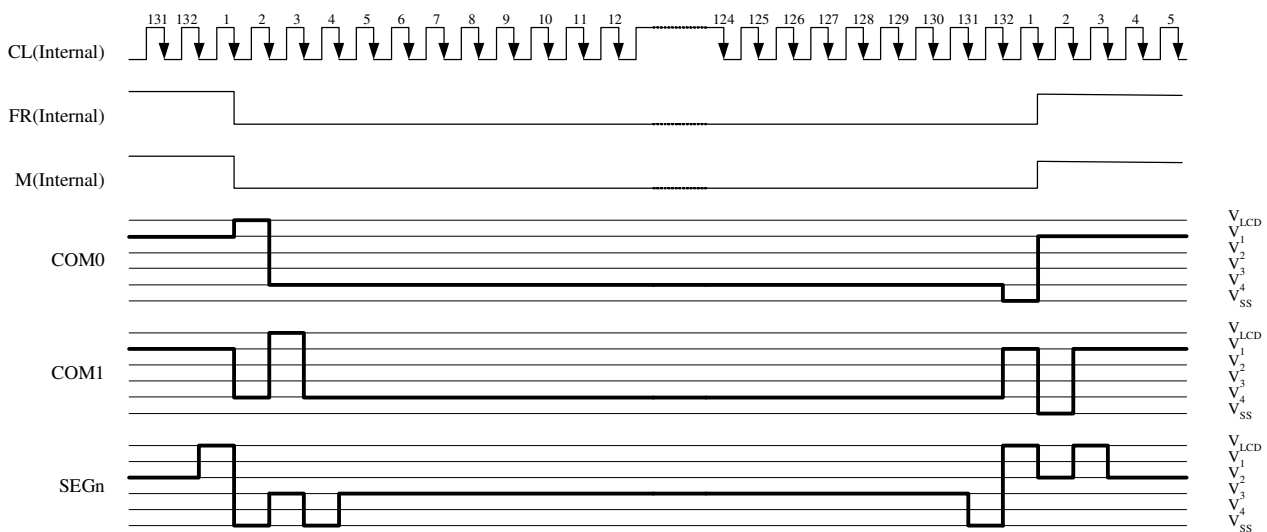

Figure 7.8.1 2-frame AC Driving Waveform (Duty Ratio: 1/132)
This circuit generates some signals to be used for displaying LCD. The display clock, CL (internal), generated by oscillation clock, generates the clock for the line counter and the signal for the display data latch. The line address of on-chip RAM is generated in synchronization with the display clock and the display data latch circuit latches the 132-bit display data in synchronization with the display clock. The display data, which is read to the LCD driver, is completely independent of the access to the display data RAM from the microprocessor. The display clock generates an LCD AC signal (M), which enables the LCD driver to make an AC drive waveform, and also generates an internal common timing signal and start signal to the common driver. The frame signal or the line signal changes the M by setting internal instruction. Driving waveform and internal timing signal are shown in Figure 7.8.1.